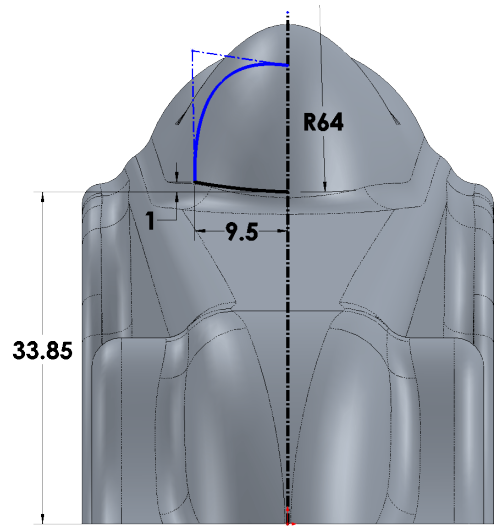

Fig. 129
Step 11. Sketch a **3 control vertex point Spline** between centerline and left endpoint of arc, **Fig. 129**.